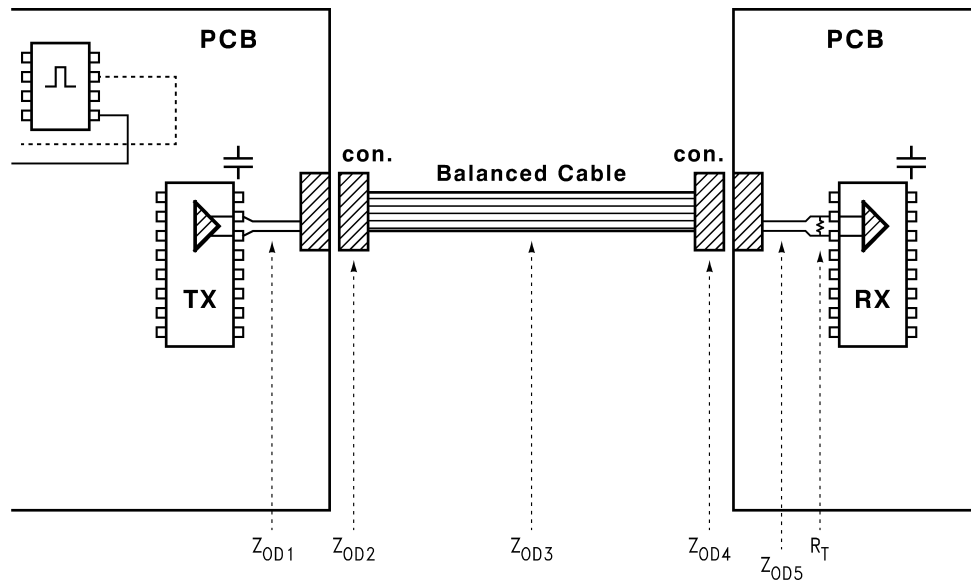

FIGURE 2. TX and RX Location
The transmitter should be located as close to the interface as possible (see *Figure 2*). This is done to minimize the PCB LVDS overall trace length (see following section on differential traces) and thus skew as well. Skew is generally proportional to length, thus a shorter interconnect nominally has less skew associated with it. If the TX is located within 2 inches of the connector, mitering (trace length compensation
Microstrip traces (outside layer) are usually employed for this interconnect. The microstrip geometry and the fact that the traces are on the outer layer enable higher impedances more easily. It is also possible to design the interconnect without any via, thus a better signaling environment. On the down side, stripline (embedded) traces offer greater shielding due to their encasement. Either microstrip or stripline traces can be used, as long as they are matched to the cable's differential-mode characteristic impedance. This is shown in Figure 2 where  $Z_{OD1}$  represents the TX PCB impedance and  $Z_{OD3}$  is the cable (interconnect) impedance. It is recommended that all impedances should be within 10% of the target impedance (typically  $100\Omega$ ) to minimize any reflections. Note that a 10% difference in impedance will create a reflection of 5%. Reducing the magnitude of reflections will lower the EMI of the system.
**Note:** The complete interconnect between the TX output and the RX input is a high speed transmission line. Driver edge rates are in the 300 ps–700 ps range. The TX PCB traces, connectors, cable media, and RX PCB traces are all part of the system. Their impedances should be matched within 10% to maintain signal quality and generate the lowest amount of emissions. There are 4–6 impedances to consider, depending upon the application (the size of the connector). These are shown in Figure 2 as  $Z_{OD1}$ ,  $Z_{OD2}$ ,  $Z_{OD3}$ ,  $Z_{OD4}$ ,  $Z_{OD5}$ , and  $R_T$ . Also, minimize extra transitions (board or layer transitions, etc.) here to make this total interconnect as clean as possible.
The receiver should be located close to the interface connector as shown in Figure 2. This is done to minimize the PCB LVDS trace length. (See the section on differential traces.) It is not a requirement of the RX device to be located adjacent to the timing controller. The connection between the timing controller and the RX should be designed such that the parallel RGB traces are of equal length to avoid skew and a resulting set-up or hold violation at the timing controller input pins.